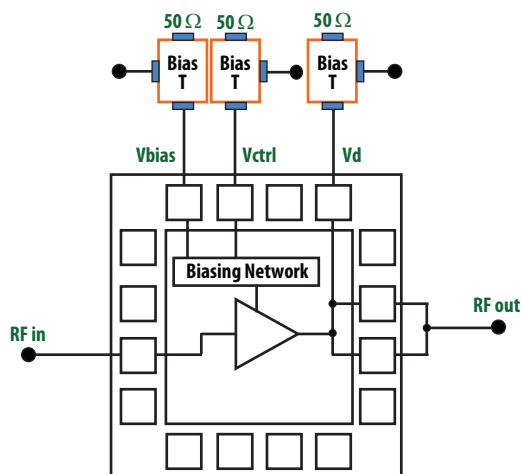

Figure 48. Circuit to measure de-embedded S-parameters and Noise Parameter in Table 4 and 5.
1. Measurements are conducted on 0.010 inch thick ROGER 4350. The input reference plane is at the end of the RFin pin and the output reference plane is at the end of the RFout pin as shown in Figure 48.
$T_C = 25^\circ\text{C}$, $V_{dd} = 5.0\text{V}$, $I_{dd} = 60\text{mA}$, $Z_o = 50\ \Omega$ (Data is de-embedded to the RFin & RFout pins on package. Measurements were made with Bias-T at V_{dd} , V_{ctrl} and V_{bias} in Figure 48)